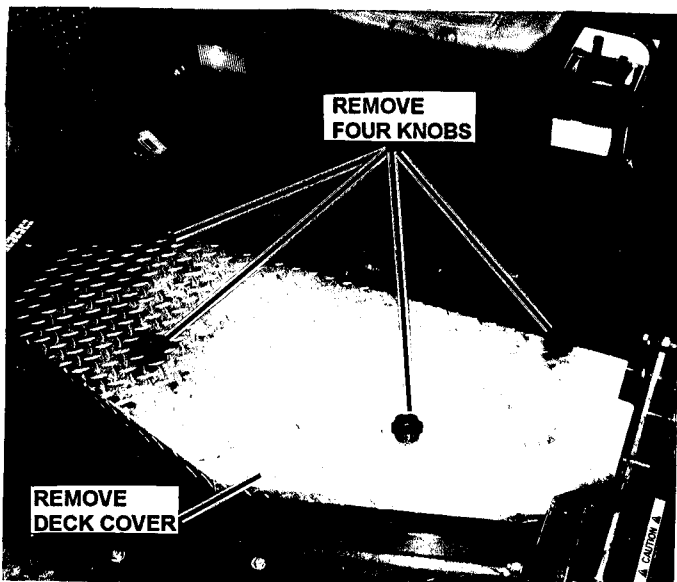

FIGURE 3.3
- b. Remove four knobs that secure the deck cover. See Figure 3.3.